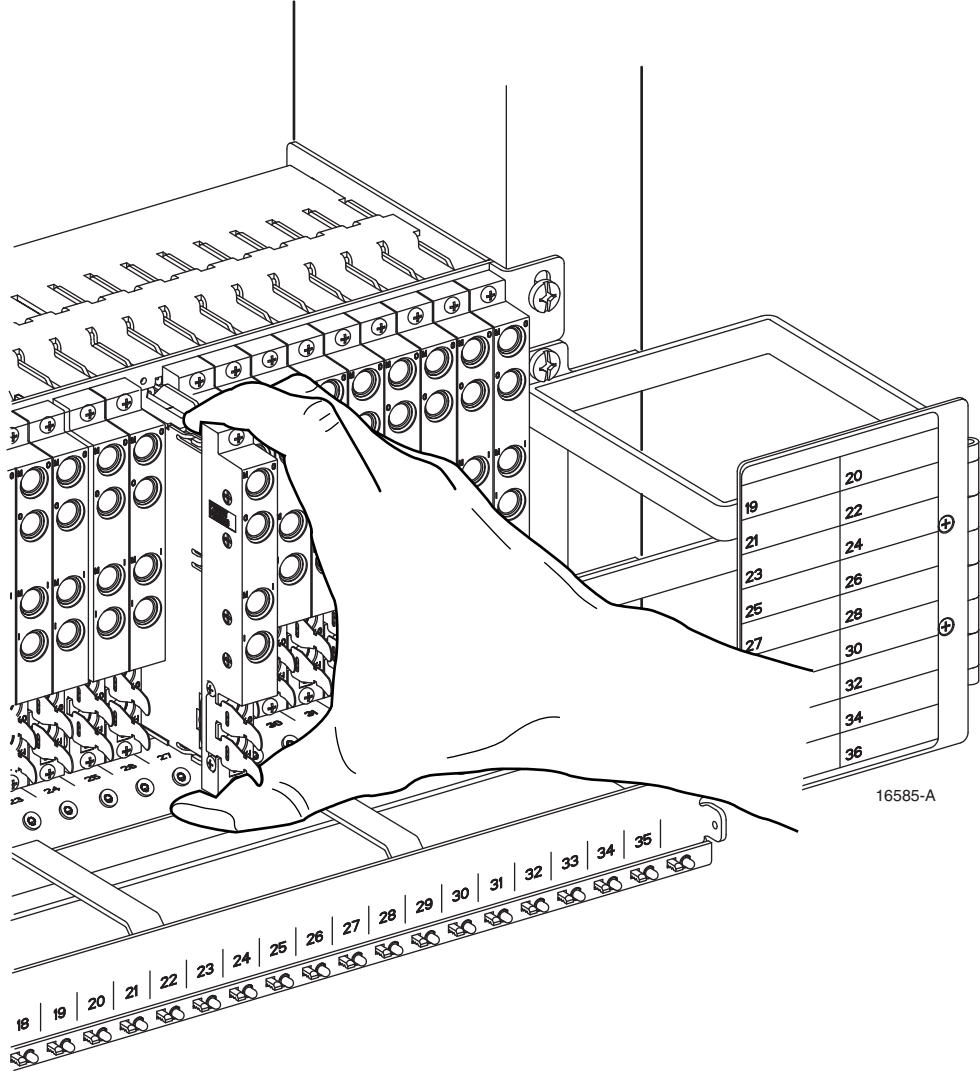

Figure 4-1. DSX-4K Circuit Module Removal/Installation (Jumper Tray Door not shown, for Clarity)
3. Remove the two module retaining screws and carefully pull the module straight away from the bay. See Figure 4-1.